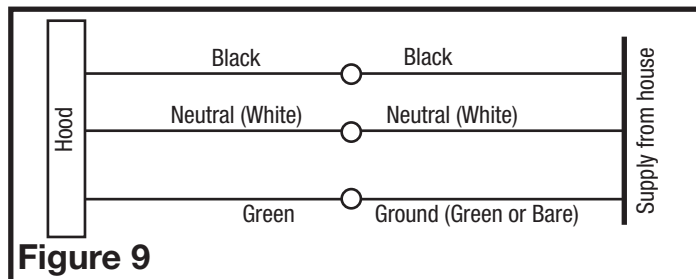

Figure 9
1. Connect the loose White wire from the range hood to the White wire from the supply, and the loose Black wire from the range hood to the Black wire of the supply. Connect the ground wire (green or bare) from the supply to the green wire from the hood. Use approved methods for all connections (**Figure 9**).